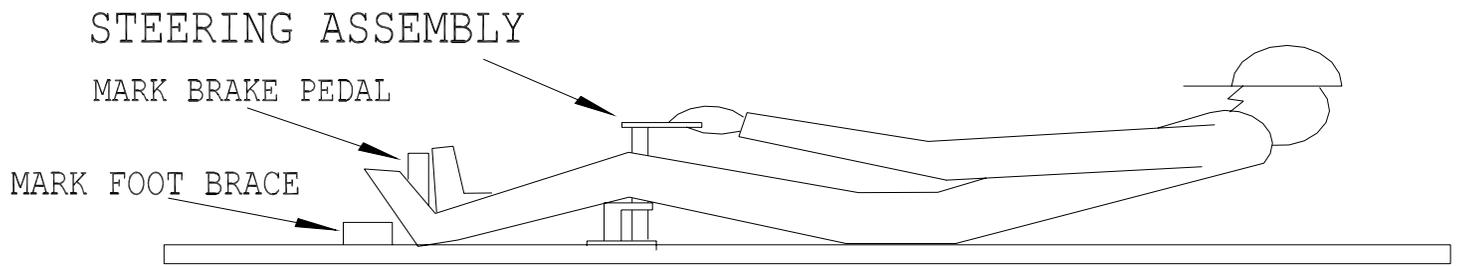

FIG 3.1
- a. The driver should lay on the floorboard with steering assembly, brake pedal, and foot brace as shown in Fig. 3.1.